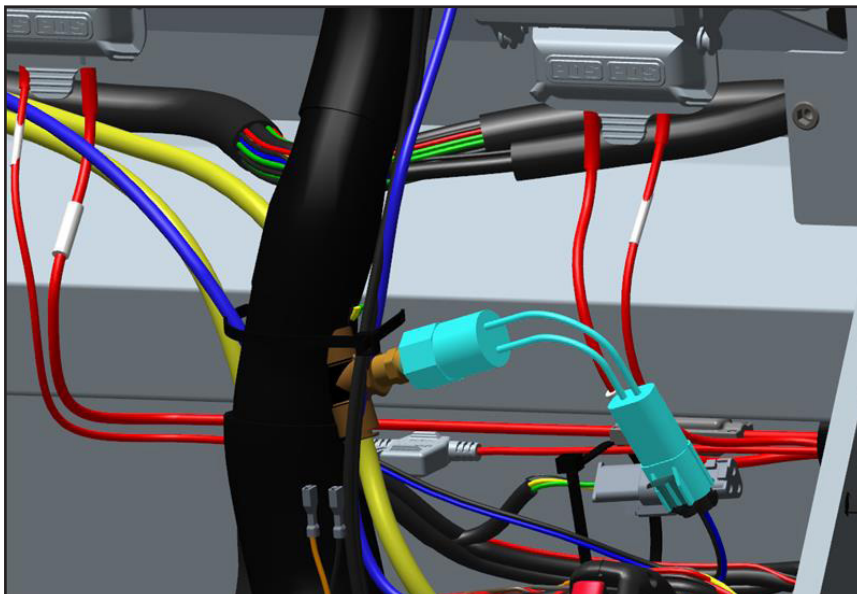

Figure 3 - Pressure switch location
9. Access the park brake valve assembly. See Figure 3.